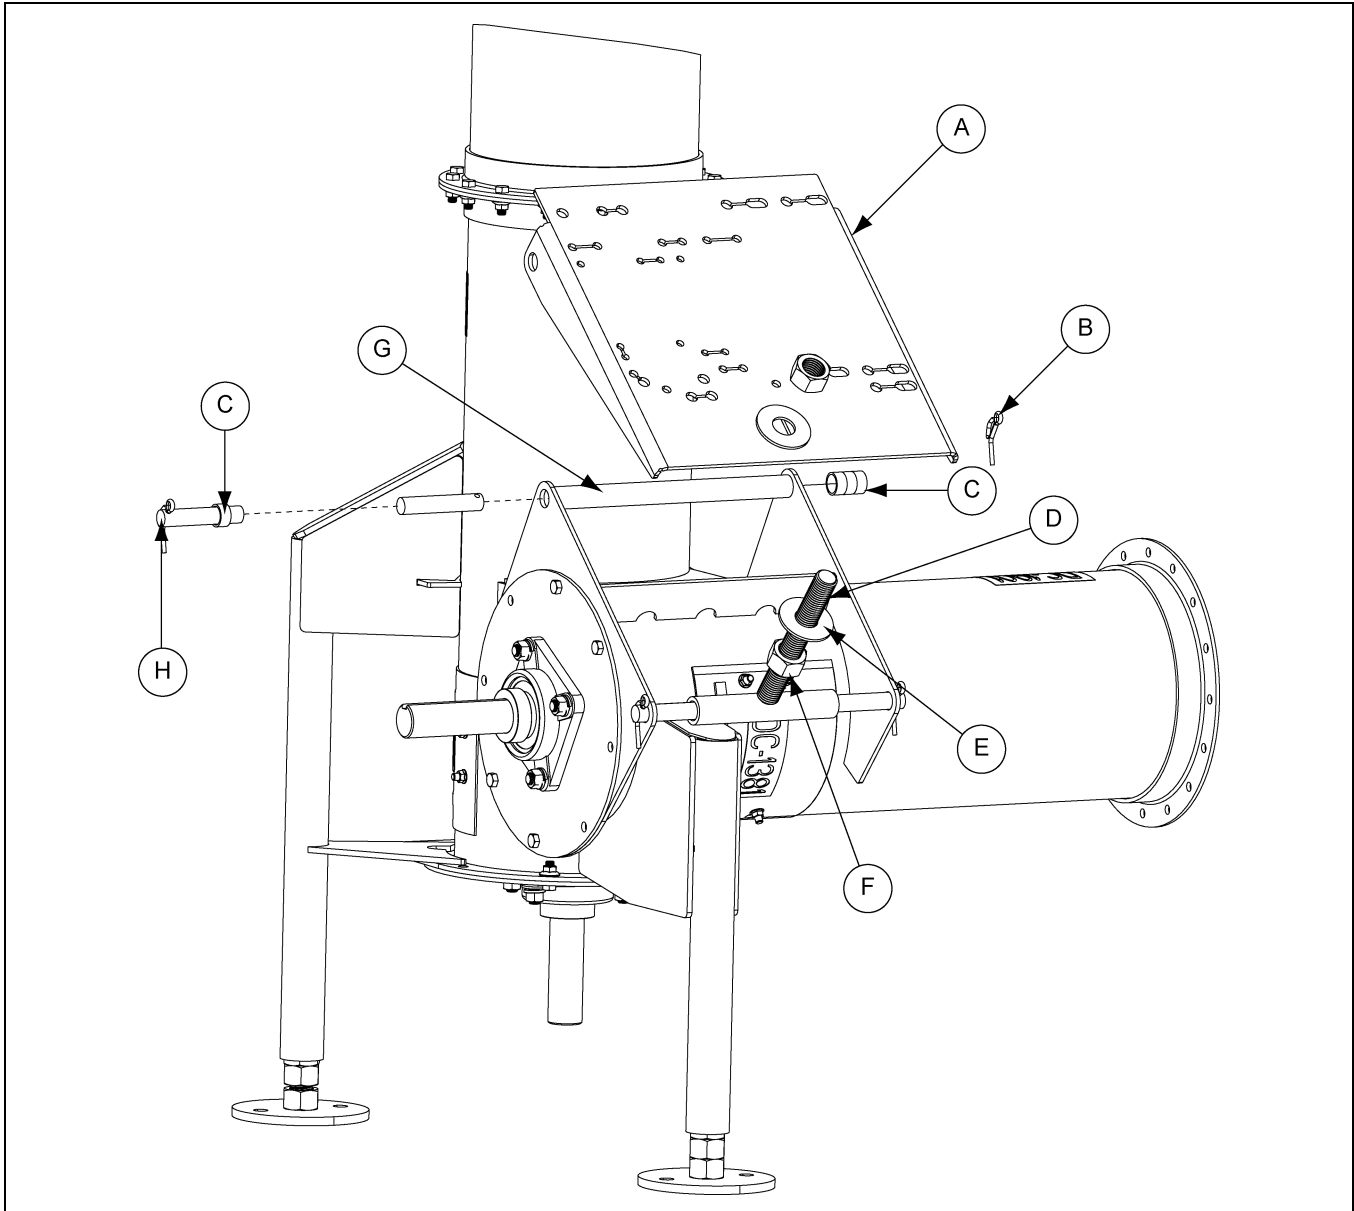
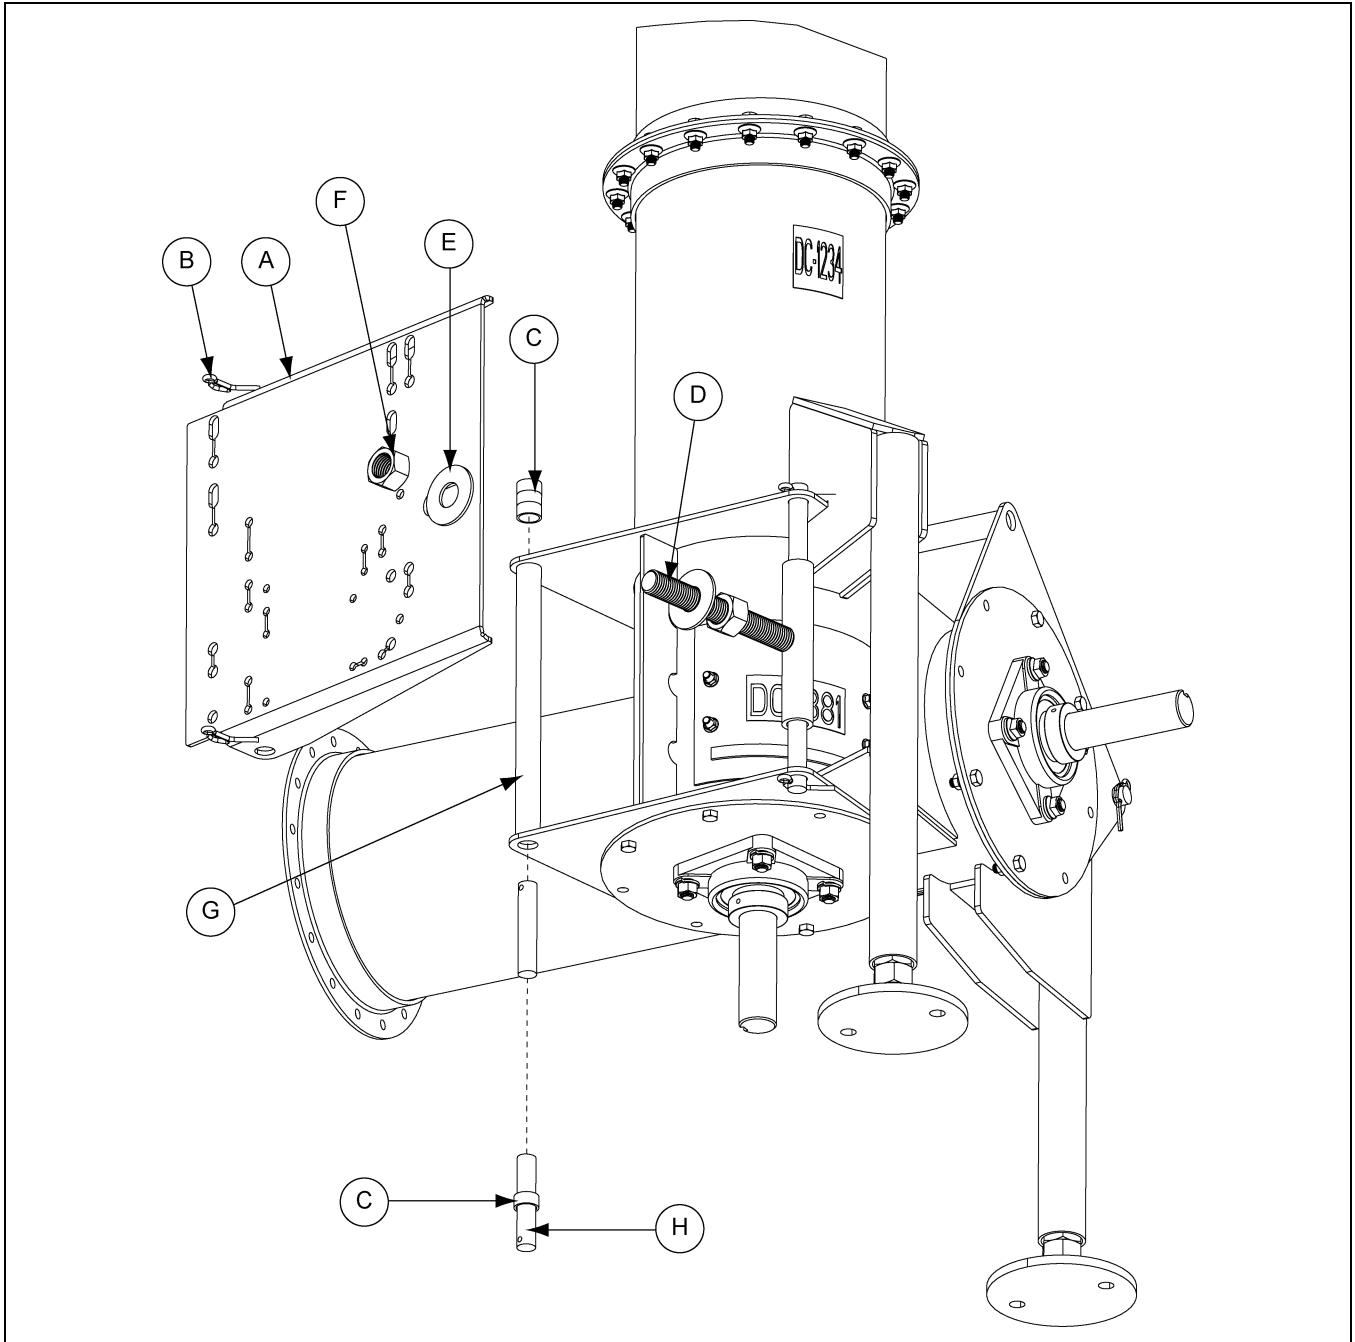

Figure 3H
Figure 3I
- A. Thread one of the *motor mount adjustment nuts* (F) and one of the *motor mount adjustment washers* (E) approximately three-quarters (3/4) of the way down the *motor mount adjuster's threaded rod* (D).
- B. Once the nut and washer are in place, slip the *motor mount plate* (A) over the adjuster and align the pivot holes with the pivot tube (G). (See Figure 3H below and Figure 3I on Page 18.)